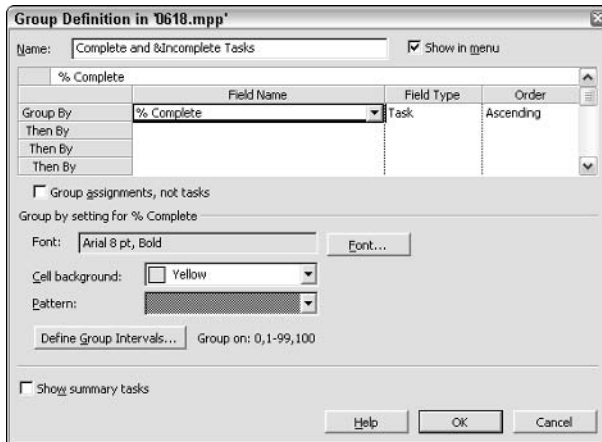

Figure 7-35: Use this dialog box to create a custom group based on an existing group.
6. If you simply want to apply a group, click OK. If you are creating a new group by copying an existing group, you see the Group Definition dialog box, as shown in Figure 7-35.